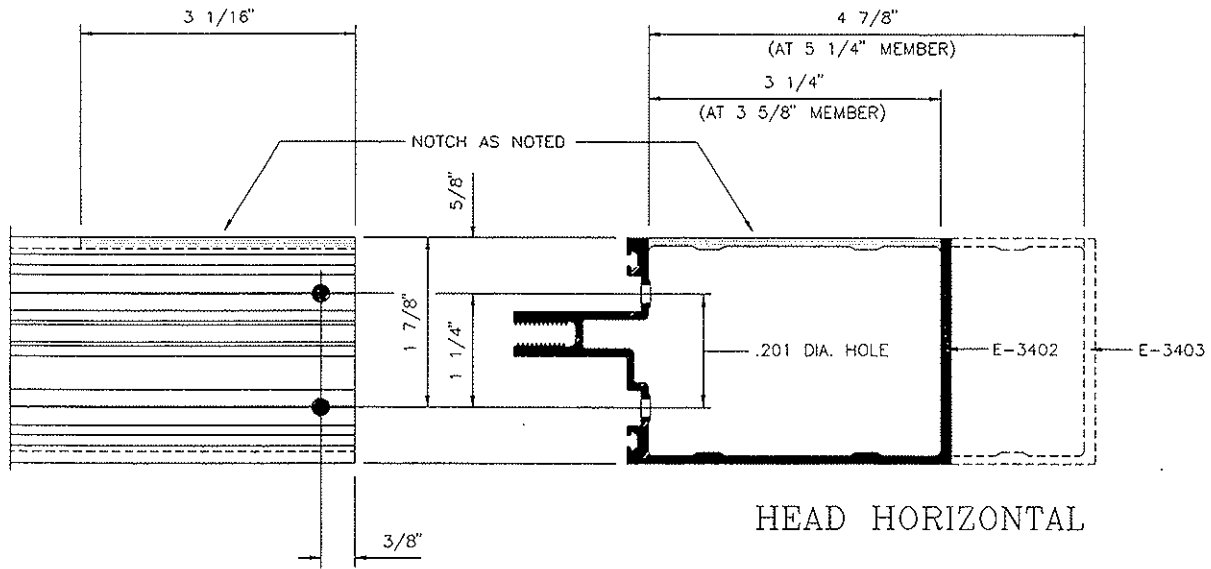

FIGURE 13
2. Layout and fabricate horizontals for attachment to shear blocks per figures 13 thru 18.